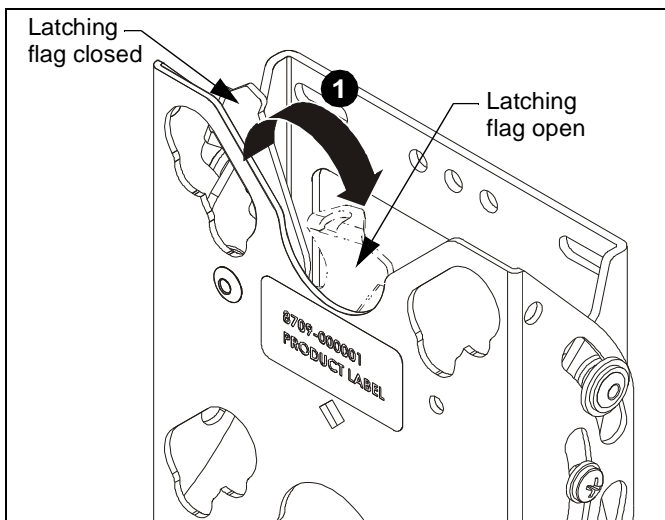

Figure 5
1. Open latching flag by rotating flag clockwise on FTR (A). (See Figure 5)